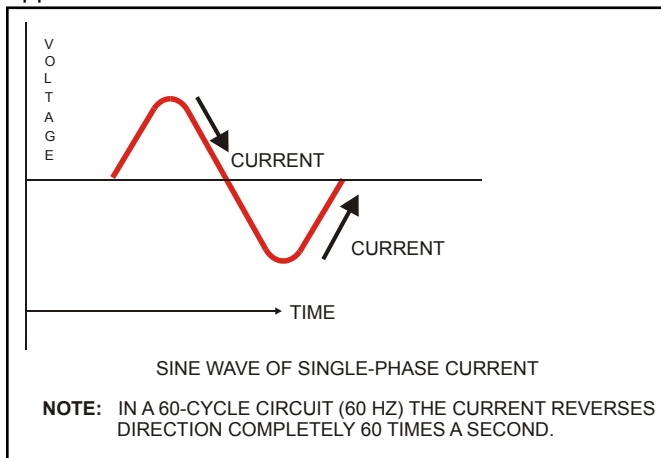

Figure 3 — Single phase power
**Single-phase** power (figure 3) can be transmitted by either a two-wire circuit or a three-wire circuit. The single-phase two wire method is the simplest and most commonly used. The voltage associated with this method is 120 VAC and is used to supply lamps, small motors, hand tools and appliances.